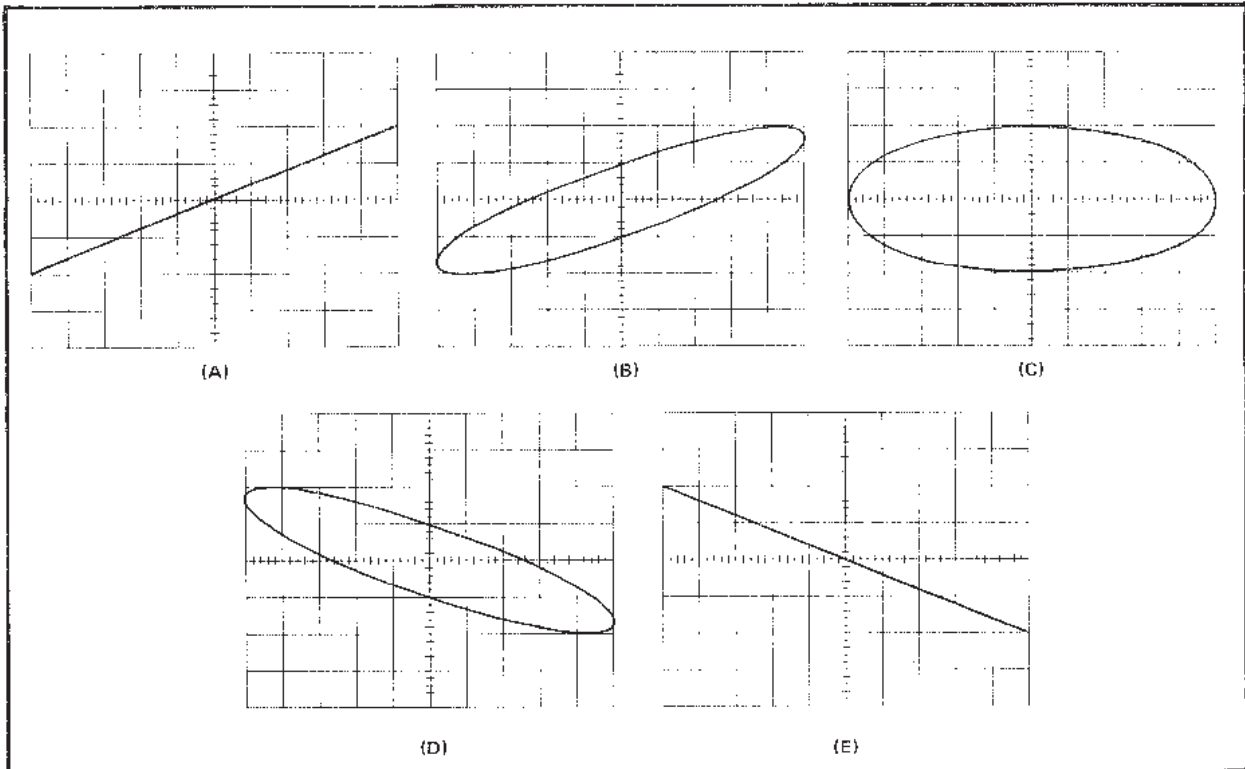

Fig. 1-11. Phase of a Lissajous display. (A) 0° or 360°, (B) 30° or 330°, (C) 90° or 270°, (D) 150° or 210°, and (E) 180°.
6. Divide B by A to obtain the trigonometric sine of the phase angle difference between the two signals. Obtain the phase angle from a trigonometric table to determine the phase angle between the X and Y signals. If the display appears as a diagonal straight line, the two signals are either in phase (tilted upper right to lower left), or 180° out of phase (tilted upper left to lower right). If the display is a circle, the signals are 90° out of phase. Fig. 1-11 shows the Lissajous displays produced between 0° and 360° . Notice that above 180° phase shift, the resultant display is the same as at some lower angle.